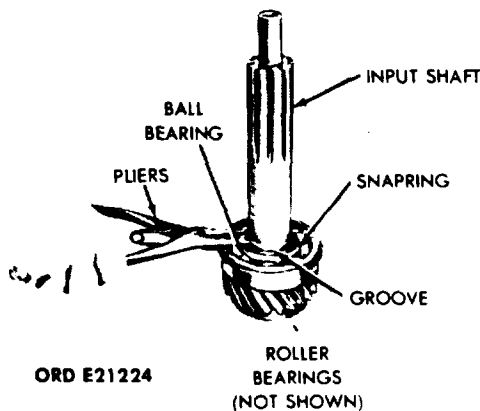

Figure 3-33. Disassembly of Input Shaft Assembly.
a. *Input Shaft Assembly.* Using a pair of pliers, remove the input shaft ball bearing retainer snapping. (See fig. 3-33.) Place the input shaft between two parallel blocks, spline upward. Using an arbor press, push the input shaft ball bearing from the shaft.
(1) Place the input shaft ball bearing on the input shaft. Place the input shaft between two parallel blocks, spline downward. Using an arbor press, press the input shaft ball bearing onto the shaft. Secure bearing to input shaft using a new snapping. See fig. 3-33 for positioning of bearing and snapping.